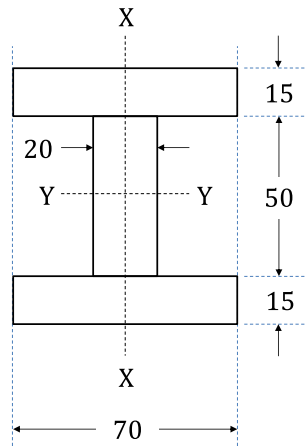

Figure Q3
3. The cross-section of a straight I-section beam is shown in Figure Q3. It is loaded in pure bending about the Y-Y axis until the full thickness of each flange and 5 mm into each end of the web has yielded. The material can be assumed to be elastic-perfectly-plastic with a yield stress of 245 MPa and a Young's modulus of 205 GPa.